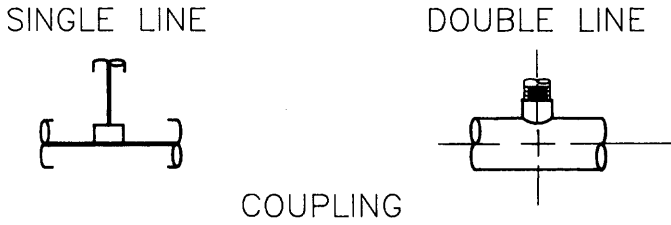

Figure 3-36. Couplings as branches.
2. A hole is bored into the pipe header large enough to accept the OD of the coupling. The coupling is inserted into the hole and is then welded. Figure 3-36 shows the coupling in use.